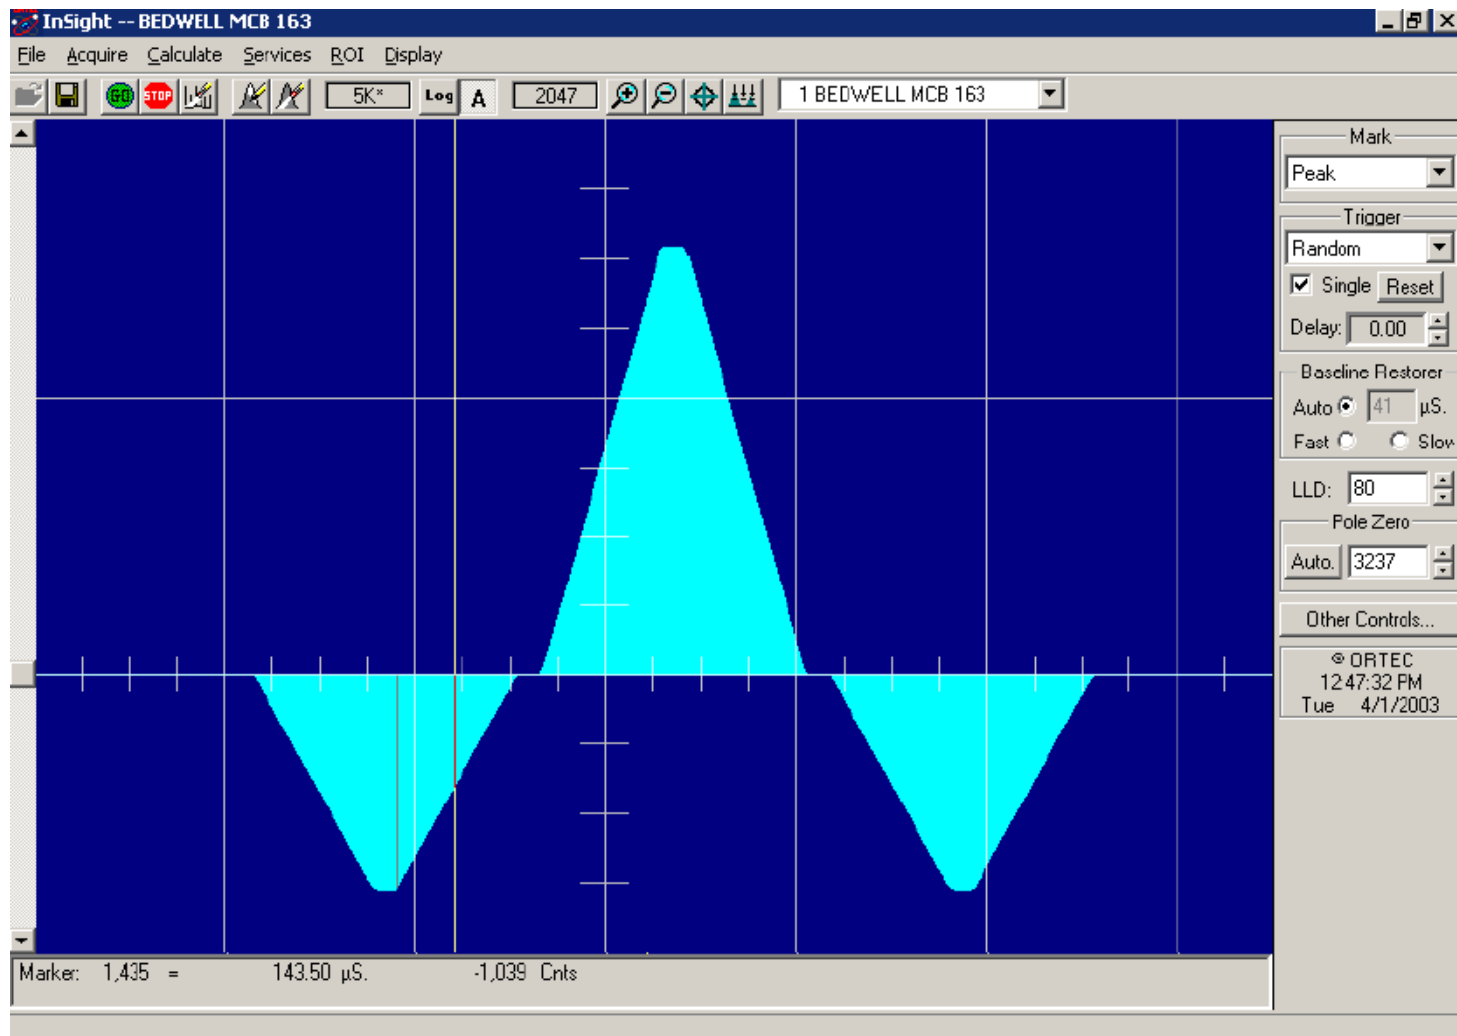

**Figure 4. LFR-Enabled Digital Filter.**
The ORTEC LFR filter removes most of the microphonic noise by estimating the microphonic-induced error signal on a pulse-by-pulse basis and subtracting the estimated error signal from the trapezoid output. As noted above, the error signal is proportional to the slope of the baseline during the energy measurement. If the slope is known, then so is the error introduced by the microphonics. An excellent estimate of the slope can be obtained by using the trapezoidal filter itself to measure the slope both before and after the energy measurement. Since the digital filter is always sampling the input signal, it is only necessary to store (1) the values measured before the event is detected, (2) the gamma-ray energy measurement, and (3) the values measured after the event is detected. The modified trapezoidal digital filter for LFR from an InSight Virtual Oscilloscope trace is shown in Fig. 4. A suitably weighted and averaged value of the before and after slope measurement is then subtracted from the energy measurement producing a measurement essentially free of microphonic noise. Although the inherent increase in the pulse processing time increases the dead time of the system, the resolution can be greatly enhanced when periodic noise is present.